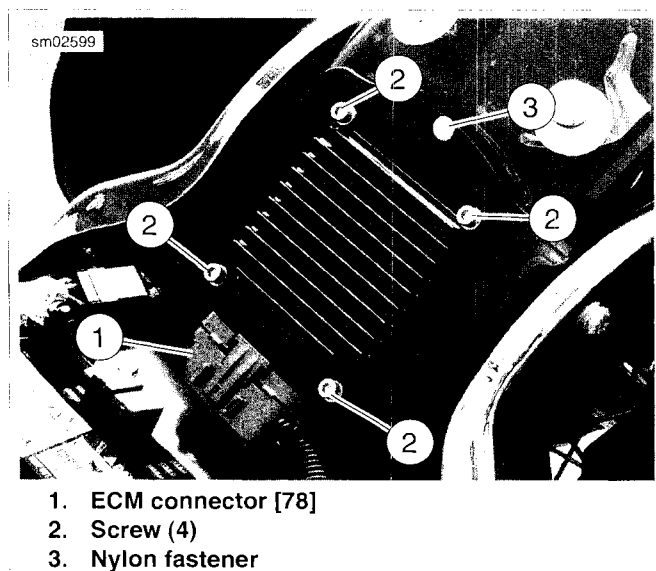

Figure 7-4. ECM Mount: FLST/FLSTC/FLSTN
- a. For FLST/FLSTC/FLSTN, see Figure 7-4. Remove four screws (2) holding ECM to mounting bracket. Press latch on connector [78] and disconnect from ECM.
- a. For FLST/FLSTC/FLSTN, see Figure 7-4. Install four screws (2) that secure ECM to mounting bracket. Tighten to 45-55 **in-lbs** (5.1-6.2 Nm).